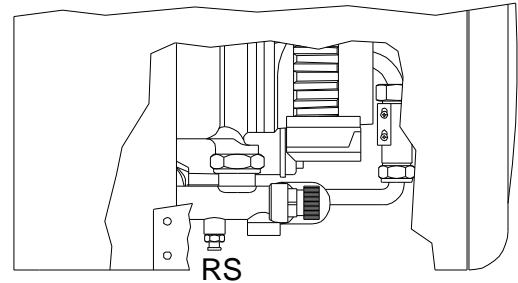

Fig. 2
- close the tap on the filling loop (see fig. 2) once this operation is completed;
turn the system drain tap RS (see fig. 2) and use a container to collect the water that runs out;